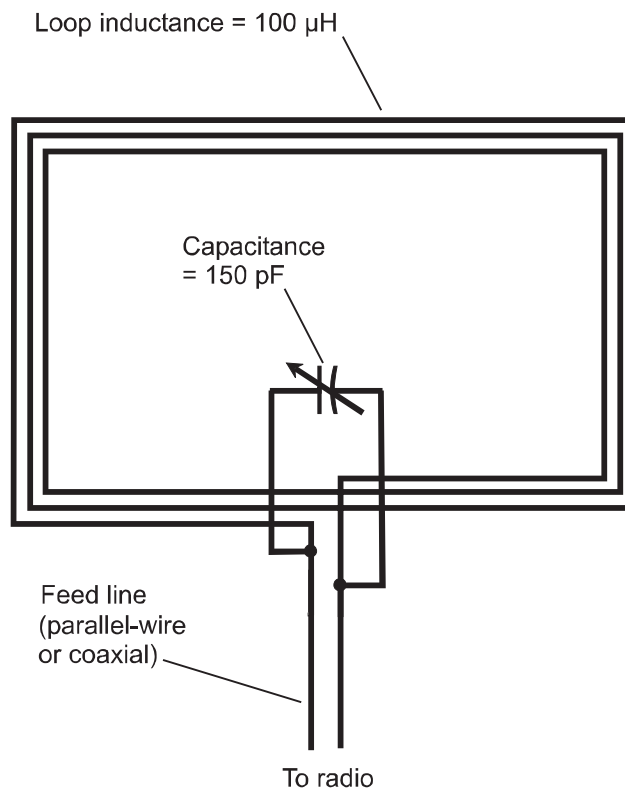

Fig. Test3-3. Illustration for Part Three Test Questions 24 through 26.
24. Figure Test3-3 shows a tuned loop antenna. The inductance of the loop, L , is 100 microhenrys (μH). The capacitor is set for a value of $C = 150$ picofarads (pF), which is the equivalent of 0.000150 microfarads (μF). The formula for the resonant frequency f_o , in megahertz (MHz), for a tuned inductance-capacitance circuit where L is the inductance in microhenrys and C is the capacitance in microfarads is given by the following formula:
25. Refer to Fig. Test3-3. If the variable capacitor is adjusted so its capacitance increases, the resonant frequency of the tuned antenna
26. Refer to Fig. Test3-3. If more turns are added to the coil so its inductance increases, but the capacitor setting is left the same, the resonant frequency of the tuned antenna